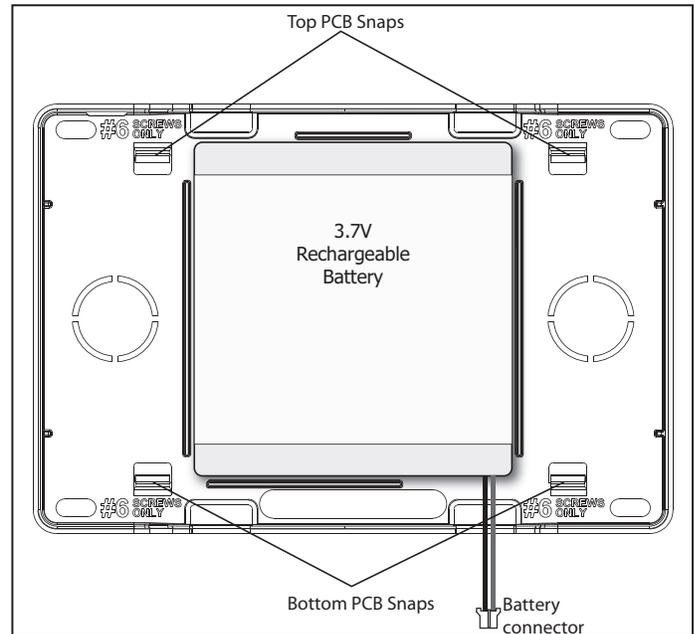

Figure 4: Standby Battery Replacement
6. Place the new battery into the XTLN/XTLN-WiFi housing base with the battery wires directed toward the bottom right corner. See Figure 4.